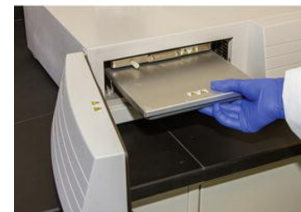

Figure 19: Incubate overnight at 37°C
11. Close hybridization chamber, insert tray into oven, and clamp tray into place. **Incubate at 37°C overnight** (16 - 18 hours) (Figure 19).